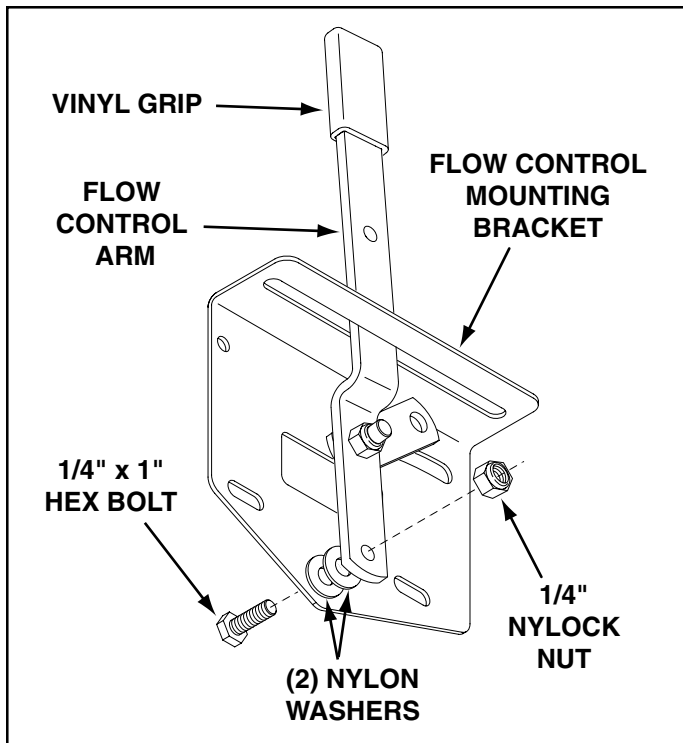

FIGURE 8
16. Assemble the flow control arm to the flow control mounting bracket using a 1/4" x 1" hex bolt, two nylon washers and a 1/4" nylock nut as shown in figure 8. **Tighten carefully.** The flow control arm should be snug, but should pivot with no more than a slight resistance.
17. Assemble the vinyl grip. See figure 8.